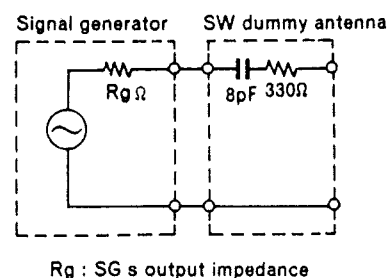

Fig. 5
8. SW dummy antenna shows Figure 5.